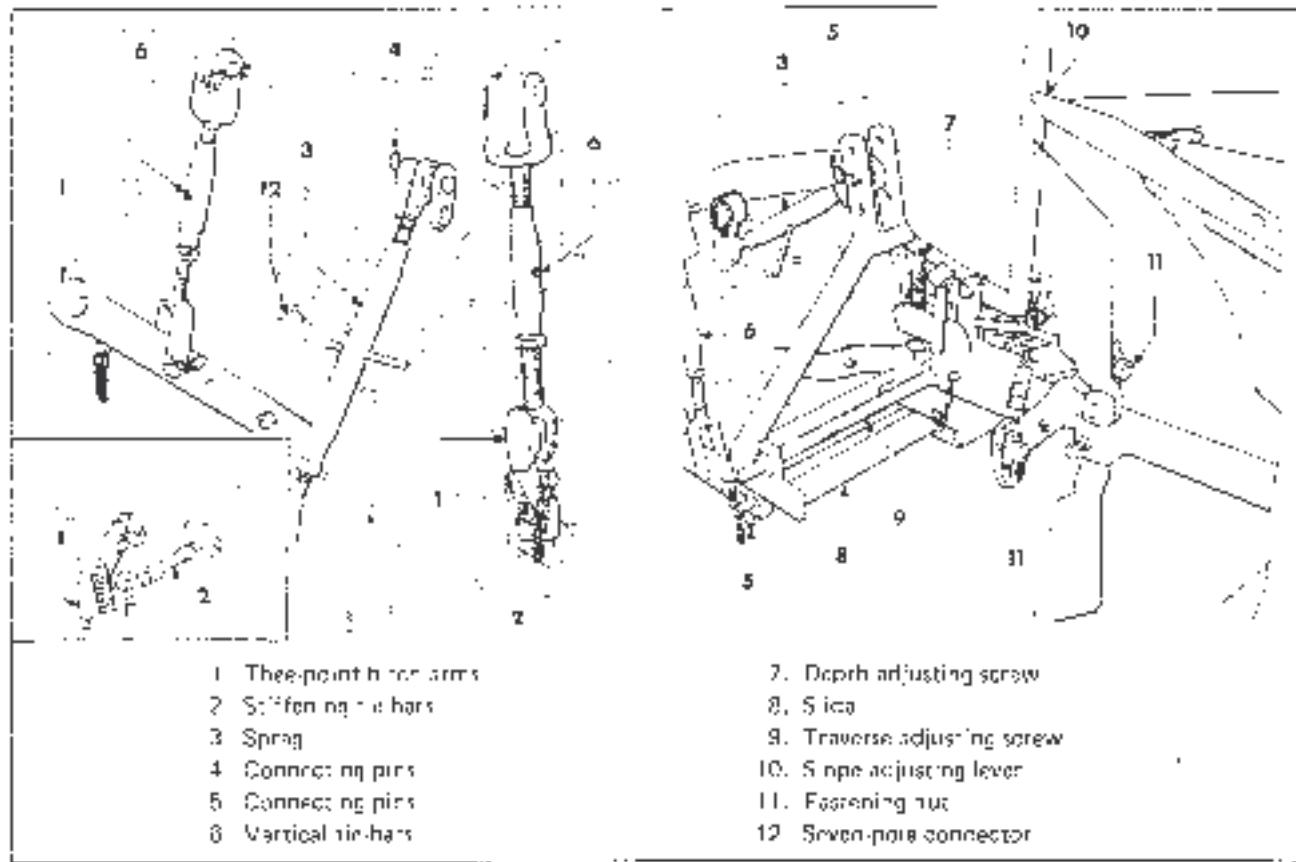

Figure 15. Plough connection
(see fig. 15)
3. Connect the tractor electrical system to the trailer through a 7-hole connector (fig. 15, item 12).